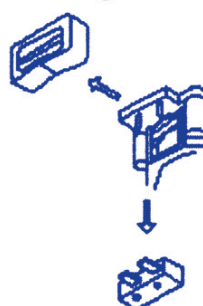

Fig. 5
- (iii) Control unit(s) can now be released for inspection. (See Fig. 5).